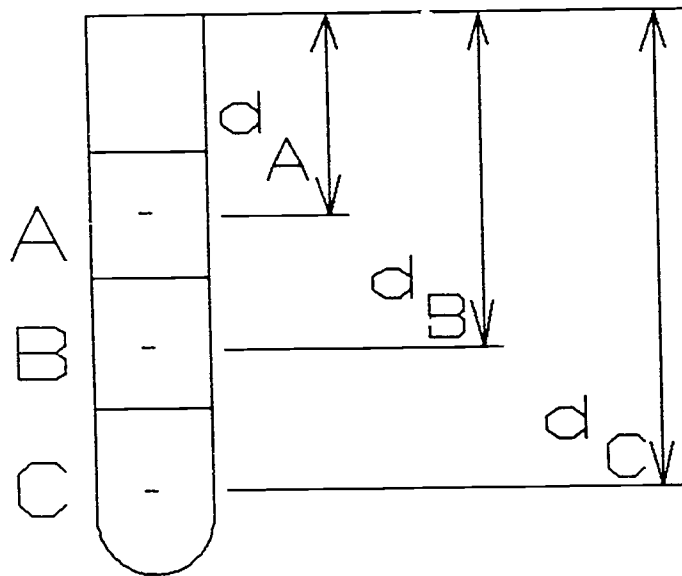

Figure C-4-1
2. Spin the mixture in the centrifuge. Then take it out when they have separated, and measure how far down each of the materials is from the top of the test tube. (See Figure C-4-1, "Separated Substances.")